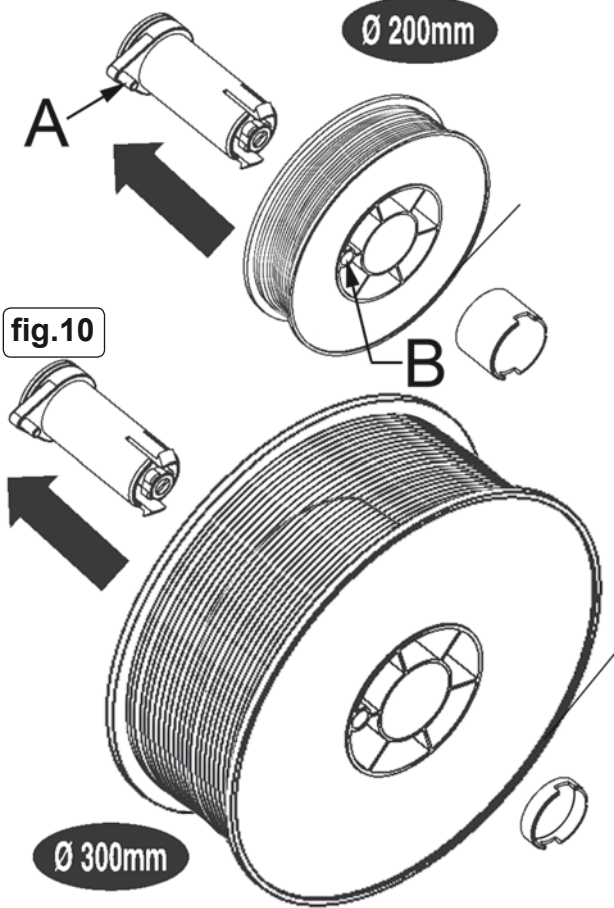

fig.10
3.8.1 Open the side of the unit, remove any spacer from the reelholder and push the reel of wire over the holder end springs and onto the holder ensuring that the spool is rotating anti-clockwise with the wire drawing off the reel from the bottom towards the wire drive unit. The larger spools of wire have a guide hole 'B' which must be pushed over the plastic pin located at the back of the reel holder 'A' (See fig.10 below). When a larger reel has been located on this pin, push the appropriate spacer back onto the holder to keep reel engaged with the pin. The pin, in conjunction with the braking mechanism will stop large reels from free wheeling around the holder.